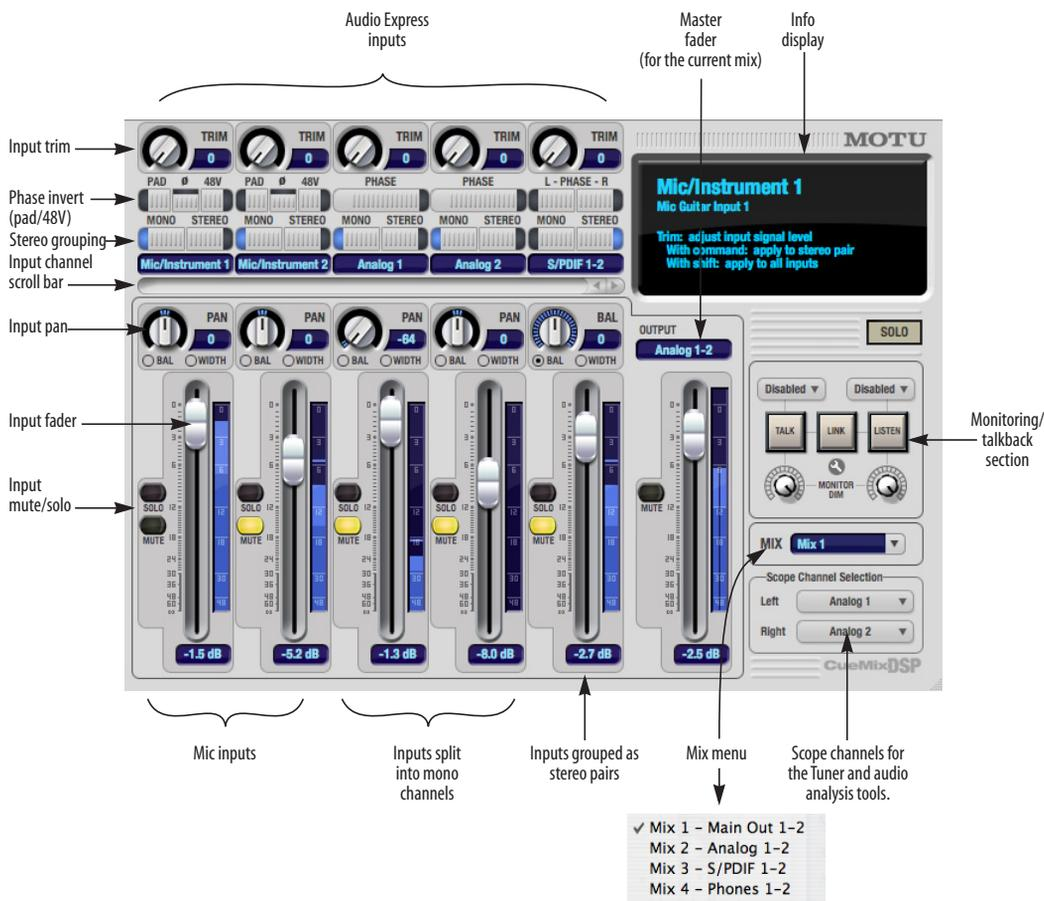

Figure 10-1: CueMix FX is a virtual mixer that gives you control over the Audio Express's on-board mixing features.
CueMix FX displays one mix at a time. To select which mix you are viewing, choose it from the mix menu (Figure 10-1). Click the mix name to change it. The mix output pair appears above the mix master fader (Figure 10-1).
To view a mix, choose it from the *Mix* menu (Figure 10-1). The menu shows all mixes by name, followed by the audio interface's output pair that it corresponds to.
The master fader (Figure 10-1) controls the overall level of the mix (its volume on its stereo output). Use the individual input faders to the left to control individual input levels.
The mix mute button (Figure 10-1) disables (silences) the mix.
The *Inputs* section (Figure 10-1) gives you access to individual Audio Express inputs (or input pairs). Unmute the input and bring up its fader to hear the input on the current mix's output. Mute, solo, and pan are also provided for each input channel.
The *Phase* button (Figure 10-1) inverts the phase of the input signal. For stereo pairs, you can invert the phase for the left and right channels independently. For the mic/instrument channels, click the phase button (\emptyset) repeatedly to cycle among two states for mono channels (on or off) and four states for stereo grouped channels (no inversion, left only, both, or right only).
Click the *Mono* button (Figure 10-1) if you would like an input to be treated as a mono channel. If you would like to work with it as one channel of a linked stereo pair, click the *Stereo* button. Inputs are grouped in odd/even pairs (Mic/instrument 1-2, Analog 1-2, etc.) Stereo pairs appear as a single channel strip in the CueMix FX mixer.
The pan knob (Figure 10-1) for each input pans the input across the mix's stereo outputs. If the input itself is grouped as a stereo pair, two forms of panning control are provided:
Use the input fader (Figure 10-1) to adjust the level for the input in the mix. Note that an input can have different level, pan, mute and solo settings for each mix. Input channel level meters are post-fader.
The *Scope channel selection* menus (Figure 10-1 on page 52) let you choose what input channels will be fed to the CueMix FX audio analysis (scoping) features. See “Devices menu” on page 57.
- 1 Select the source mix (Figure 10-1) and choose Copy from the Edit menu (or press control-C).